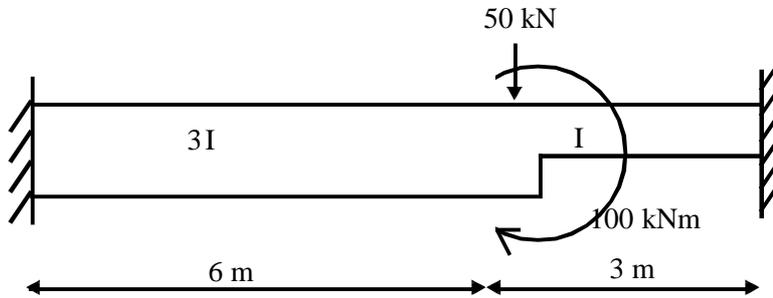

Figure. 3
11. Analyse the fixed beam shown in Figure .3 by stiffness method and draw the bending moment diagram and shear force diagram.